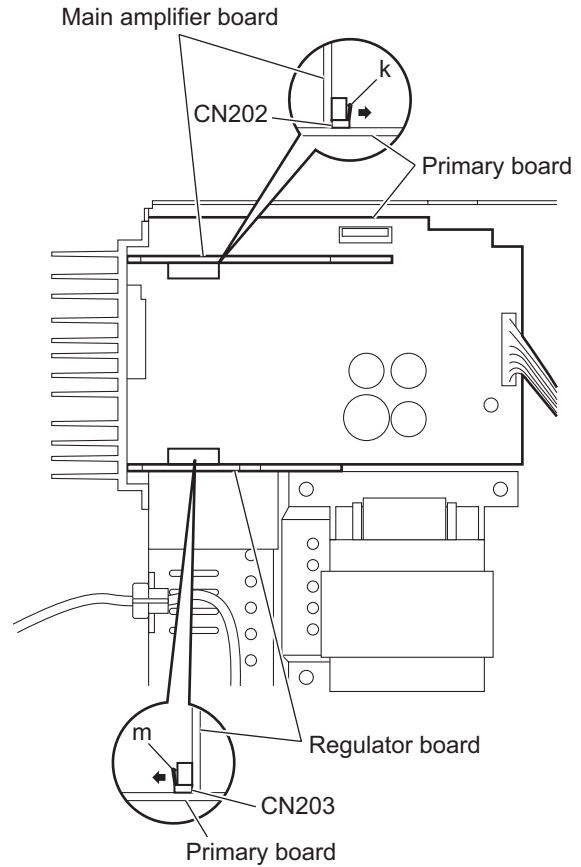
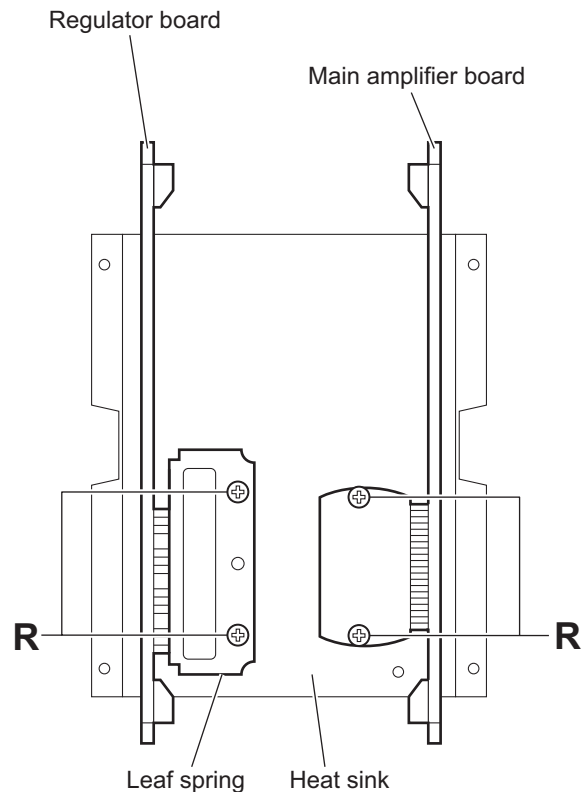

Fig.19
Fig.20
### 3.1.11 Removing the regulator board and main amplifier board (See Figs.19 and 20)
- (1) From the top side of the main body, disconnect the regulator and main amplifier boards in an upward direction while releasing the locks (**k**, **m**) of the connectors (CN202, CN203) on the primary board. (See Fig.19.)
- When releasing the locks (**k**, **m**), take care not to break them. (See Fig.19.)
- (2) Take out the regulator and main amplifier boards at the same time from the main body.
- (3) Remove the two screws **R** attaching the leaf spring to the heat sink and remove the regulator board from the heat sink. (See Fig.20.)
- (4) Remove the two screws **R** attaching the main amplifier board to the heat sink. (See Fig.20.)